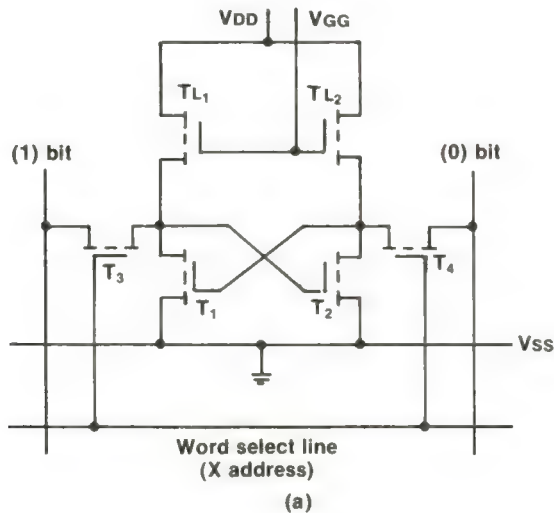

Figure M-26
RAM cell comprises a flip-flop (q.v.) and gates operated by control signals that connect the flip-flop to the data-bit line as required. The output state of the flip-flop will be high (1) or low (0) according to what state the data bit to be stored set it in. A typical circuit is shown in Figure M-26.